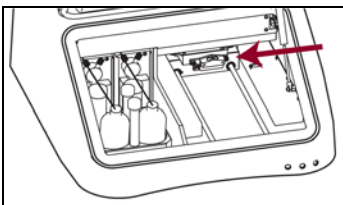

Figure 14
4. Push the optical head to the center of the luminometer, exposing the black metal shelf on the right side of the luminometer. (See Figure 14.)